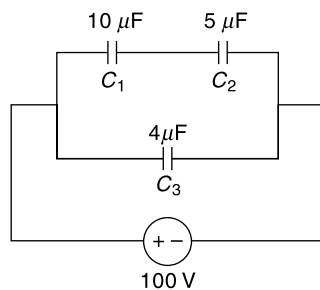

Fig. 2.72
38. A circuit is displayed in Fig. 2.72. Find